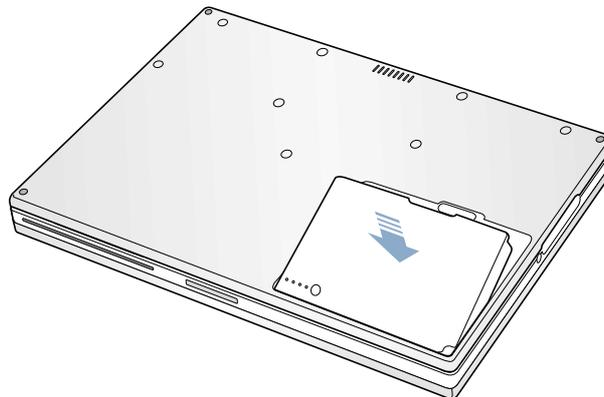

Figure 10
9. Replace the battery into the battery compartment (**Figure 10**).